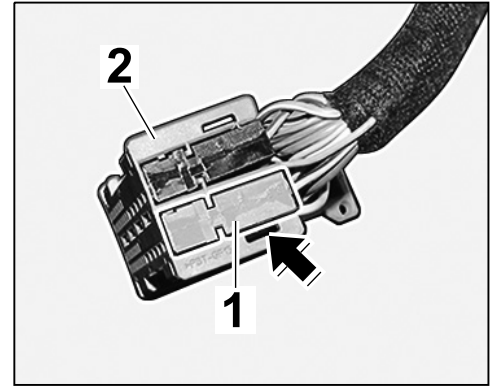

Figure 18
- 2.5.4 Press down the locking mechanism ⇒ *Figure 18 -arrow-* and push the grey plug socket ⇒ *Figure 18-1-* out of the plug carrier ⇒ *Figure 18 -2-*.